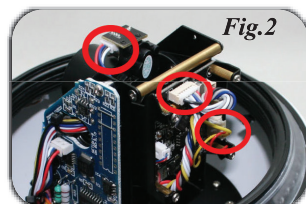

Fig.2
Step 2: Unplug both connectors leading from the main board to the CMOS board (7-pin) and lense motor (4-pin) to remove the camera head from the camera case. Furthermore remove the connector of the photoresistor (3-pin). (Fig.2)